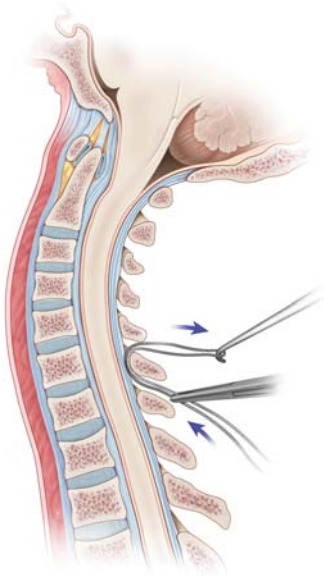

Figure 8a
- Contour the cable leader in the shape of a “C”. Starting at the most caudal cervical level, introduce the leader inferiorly beneath and around the laminae. The cable is passed in the epidural space, which is exposed by removing the ligamentum flavum. If the correct plane is utilized, the cable should pass freely. If resistance is encountered, the dissection should be carefully inspected to ensure that the epidural space is properly exposed. As the leader emerges on the superior side, it is caught with rubber-shod forceps (a hemostat) or blunt hook, and pulled upwards to maintain tension on the cable (Figure 8a).